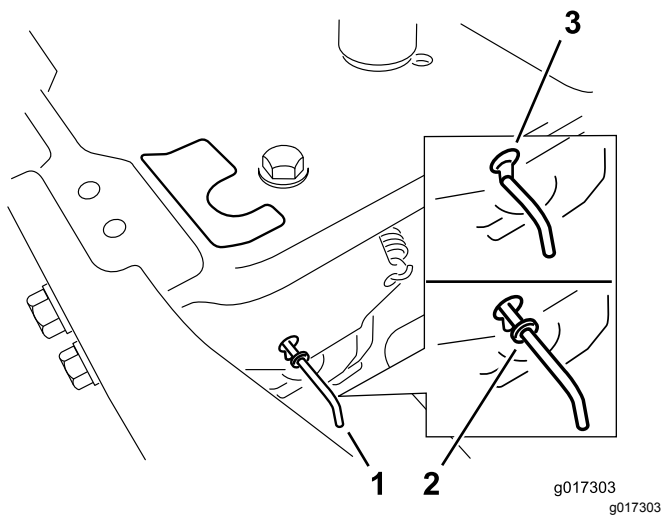

Figure 25
4. Move the bypass levers forward through the key hole and down to lock them in place (Figure 25).
Move the bypass levers rearward through the keyhole and down to lock them in place as shown in Figure 25.